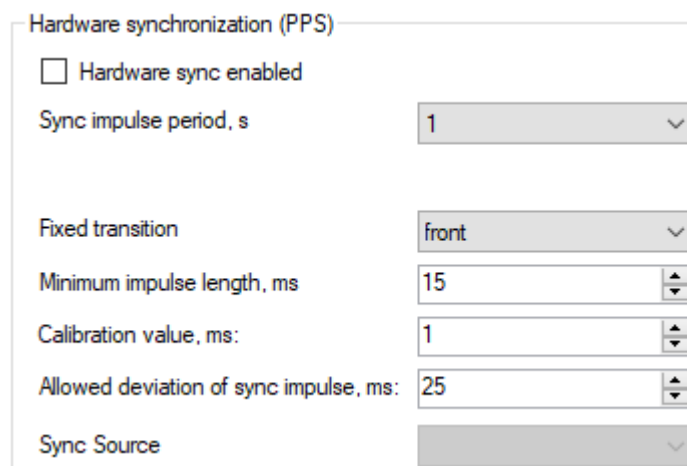

Figure 164 – Hardware synchronization (PPS)
5.3.4.2.2 Hardware synchronization (PPS) (figure 164)